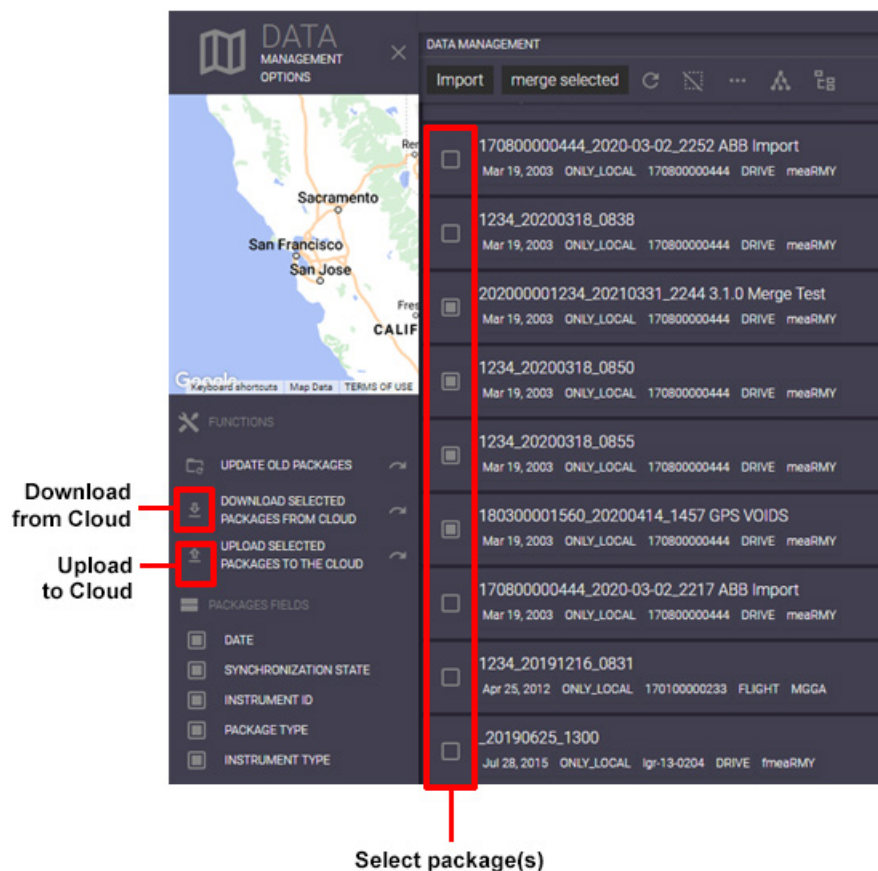

Figure 40 Data Management Options - Download/Upload Selected Packages
- 3 From the sidebar, click **Download Selected Packages from Cloud** (see Figure 40).
- 3 From the sidebar, click **Upload Selected Packages to the Cloud** (see Figure 40).